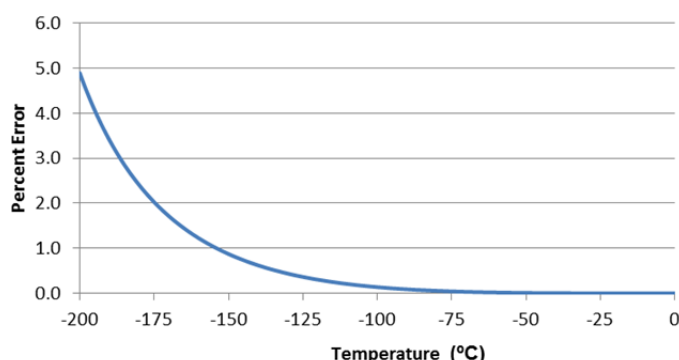

FIGURE 1: Callendar-Van Dusen Equation Comparison; Error Caused by Using Equation (2) for Temperatures Below Zero
Equation (1) is typically used for temperatures below 0°C , whereas equation (2) is used for temperatures above 0°C . When equation (2) is used for temperatures below 0°C there is some error associated with the calculated resistance. As seen in Figure 1, the error due to the use of Equation (2) grows exponentially. Below -100°C the error is too significant to justify using equation (2) in place of equation (1).